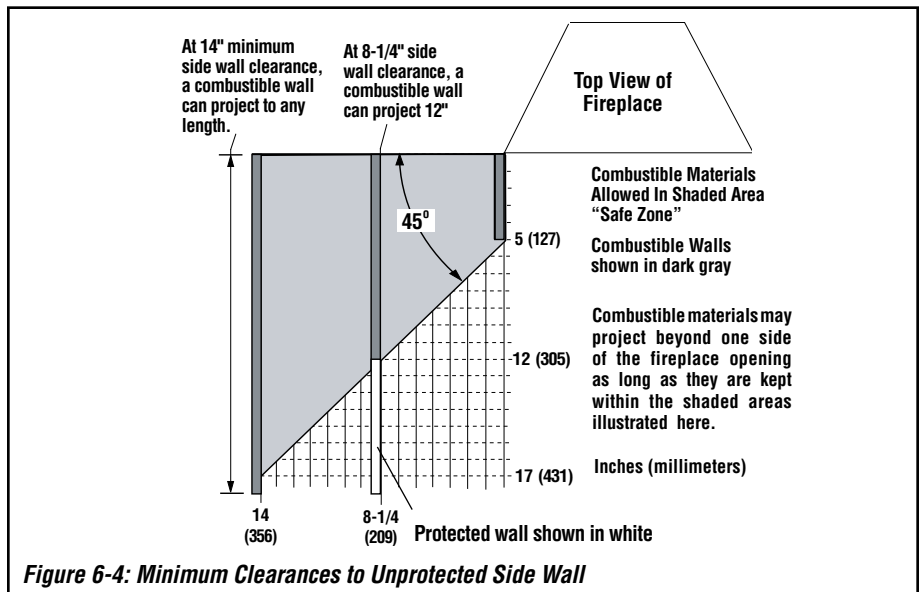

Figure 6-4: Minimum Clearances to Unprotected Side Wall
- When unit is recessed, the side walls surrounding the unit must not extend beyond unit front edge (see **Figure 6-4**).
See **Figure 6-4** for minimum clearances to unprotected side walls.